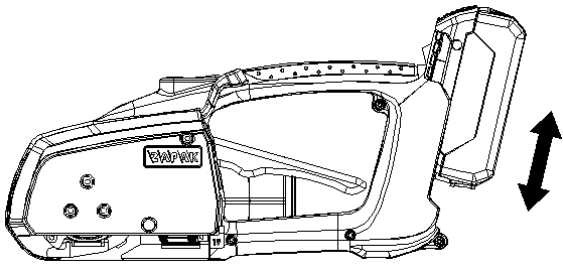
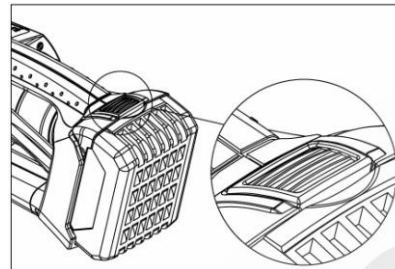

FIGURE 5-1. Illustration of Inserting and Removal of Battery
FIGURE 5-2. Illustration of Release Button Pop Up
Insert a fully charged battery onto the tool as shown (FIGURE 5-1). **Be sure to install the battery all the way down until the release button is popped up as shown (FIGURE 5-2).** Press tension button the first time, all LEDs on control panel should be lighted up and all previous settings come up with “beep” sound simultaneously. These indicate that battery electricity system is ready to work under normal condition.
- \* When the Battery Power LED on control panel shows “Red flashing”, it means the battery power is too low to work and needs to be re-charged. Then the tool is NOT supposed to be operated under such condition. You will simultaneously hear “Beep..beep..beep” alarm. Please press “Battery Release Button “ on top of battery and pull battery upward to remove it from the tool. The “ beep..beep” alarm will continue until the battery is removed. (FIGURE 5-1)